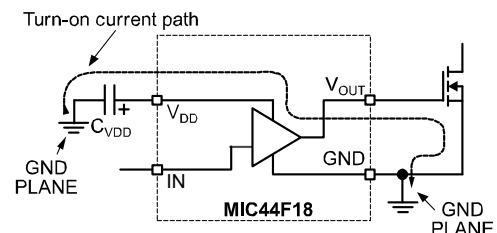

Figure 7. Critical Current Paths for High Driver Outputs
Figure 7 shows the critical current paths when the driver outputs go high and turn on the external MOSFETs. It also helps demonstrate the need for a low impedance ground plane. Charge needed to turn-on the MOSFET gates comes from the decoupling capacitors  $C_{VDD}$ . Current in the gate driver flows from  $C_{VDD}$  through the internal driver, into the MOSFET gate and out the source. The return connection back to the decoupling capacitor is made through the ground plane. Any inductance or resistance in the ground return path causes a voltage spike or ringing to appear on the source of the MOSFET. This voltage works against the gate drive voltage and can either slow down or turn off the MOSFET during the period when it should be turned on.
3. Trace out the high  $di/dt$  and  $dv/dt$  paths, as shown in Figures 7 and 8 and minimize etch length and loop area for these connections. Minimizing these parameters decreases the parasitic inductance and the radiated EMI generated by fast rise and fall times.